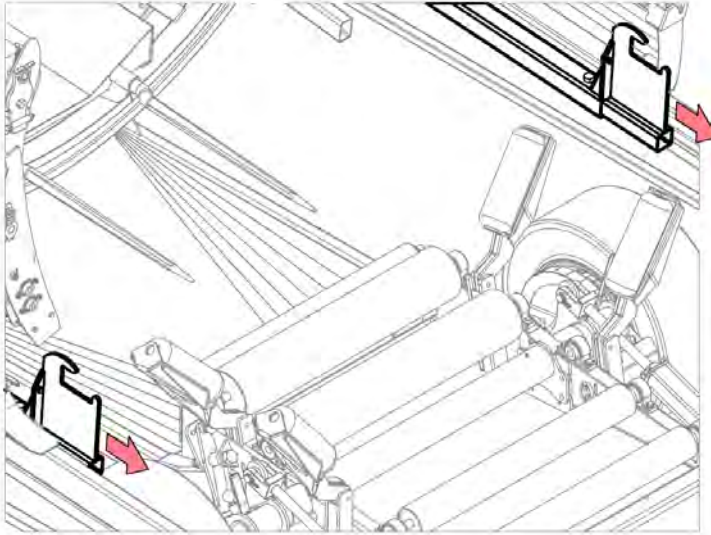

Fig. 1
1. Remove standard last bale pushoff hooks from ram tubes. Keep unfastened hardware. See Fig. 1.